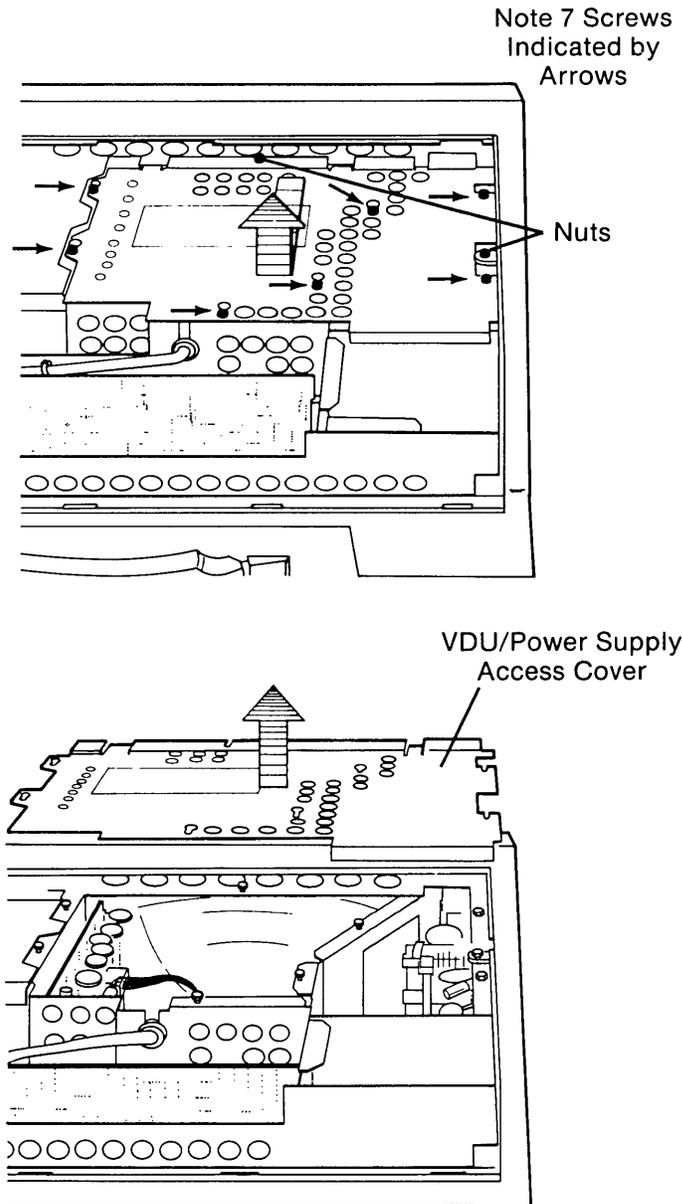

Figure 7-20. Loosening the VDU Power Supply Access Plate.
Loosen (DO NOT REMOVE) the seven (7) screws and two (2) 1/4" nuts securing the VDU assembly access plate. Slide the metal cover toward the rear of the computer and lift it off (see Figure 7-20).